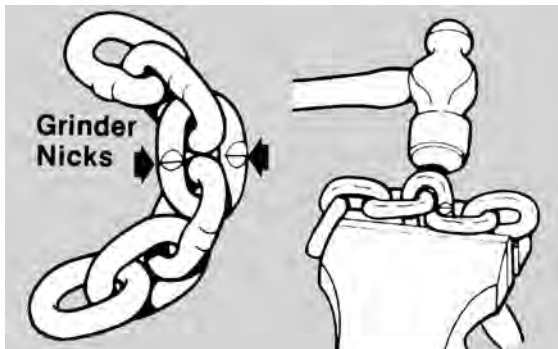

Figure 17. Cutting Chain by nicking
- (3) Chain may also be cut using a blot cutter (Figure 17) similar to the H.K. Porter No. 0590MTC with special cutter jaws for cutting hardened chain (1 inch., 25.4mm) long cutting edge).